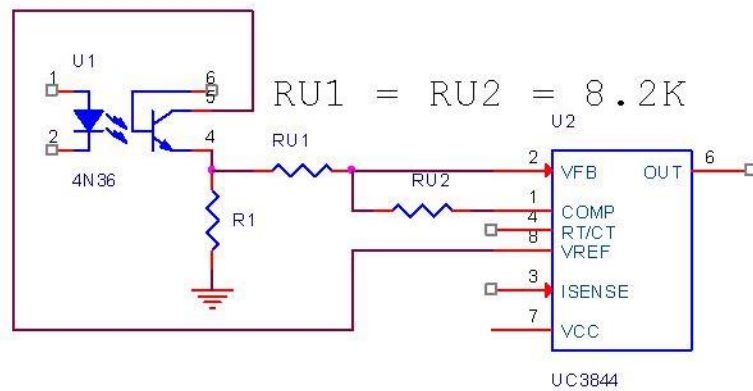

FIGURE 8
9) Another trick that works is to keep PWM chip error amplifier at unity gain on primary side after opto-transistor with compensation done on secondary side and primary error amplifier input and feedback resistor near minimum set value as shown in datasheet. As an example it is 8.8 K for UC384X series and 30 K for SG3526 type ICs (Figure 8).